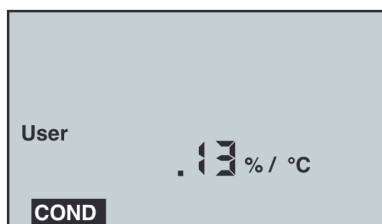

Figure 2
- b. With User mode now selected, press CAL / MCLR . You may now adjust a temperature compensation from .00%/°C to 9.99%/°C, by pressing MS or MR . See example in Figure 2.